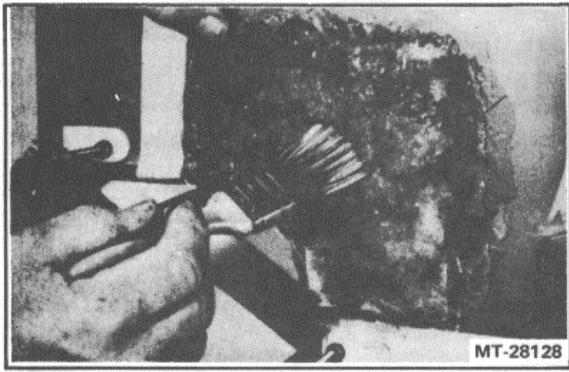

Figure 30. - Mat Lay-Up
9. Now lay-up by hand the remaining piece or pieces of resin-soaked mat (Figure 30).